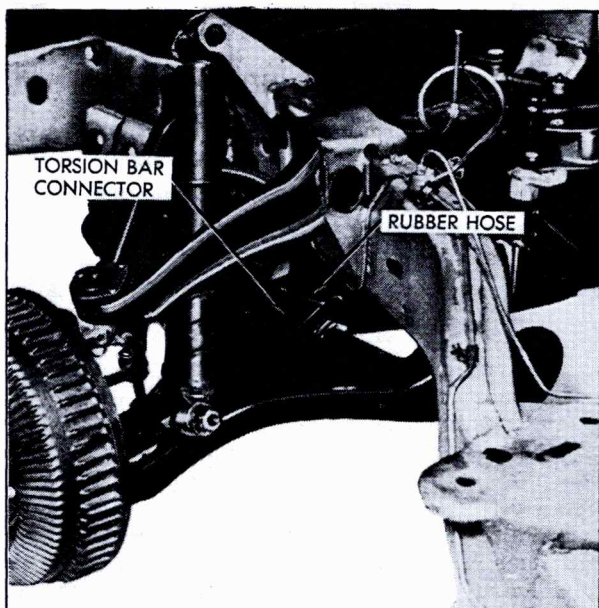

Fig. 3-43 Rubber Hose Location
12. Place a short length of rubber hose over the lower control arm torsion bar connector, Fig. 3-43.